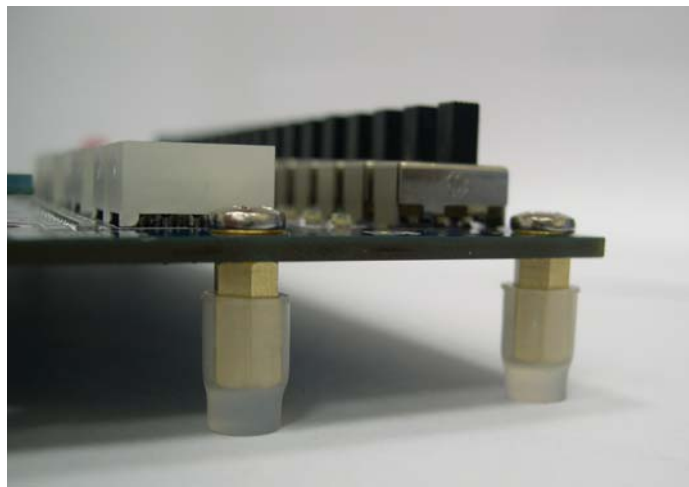

Figure 1.2. The feet for the DE2 board.
- Assemble a screw, a copper stand, and a rubber (silicon) cover, as shown in Figure 1.2, for each of the 6 screw holes on the DE2 board